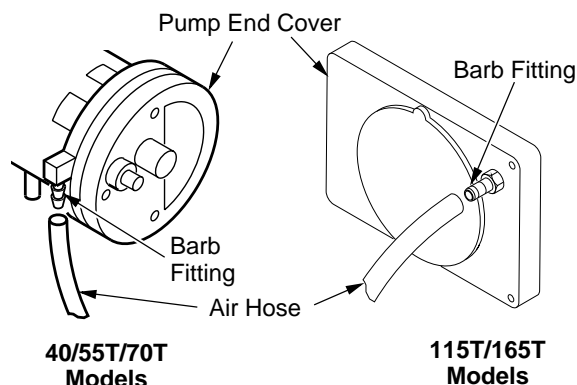

Figure 24 - Air Hose to Barb Fitting
4. Inspect fuel and air line hoses for cracks and/or holes. If fuel line hose is damaged, disconnect from nozzle adapter (see Figure 19, 20, or 21, page 10) and from fuel filter (see *Fuel Filter*, page 9). If air line hose is damaged, disconnect from nozzle adapter (see Figure 19, 20, or 21, page 10) and from barb fitting on pump end cover (see Figure 24).
5. Install new air and/or fuel line. Attach one end of air line hose to barb fitting on pump end cover (see Figure 24) and the other end to nozzle adapter (see Figure 19, 20, or 21, page 10). Attach one end of fuel line hose to fuel filter (see *Fuel Filter*, page 9) and the other end to nozzle adapter (see Figure 19, 20, or 21, page 10).